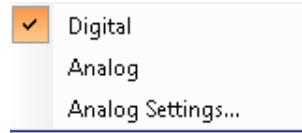

Figure 4-6: Analog Settings Dialog Box
- **Analog Settings:** Figure 4-6, page 67 shows the Analog Settings dialog box with the settings for analog waveform drawing.